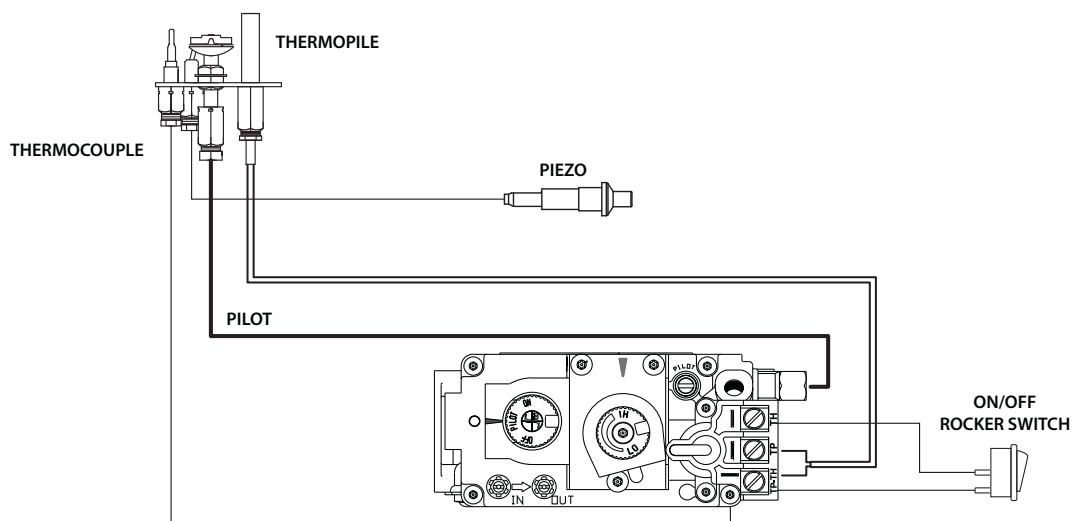

Figure 9.3, Millivolt Gas Valve Wiring Schematic with ON/OFF Rocker Switch
- It is optional to disable the rocker switch operating the main burner by disconnecting the wires from the back of the gas valve (Figure 9.3).